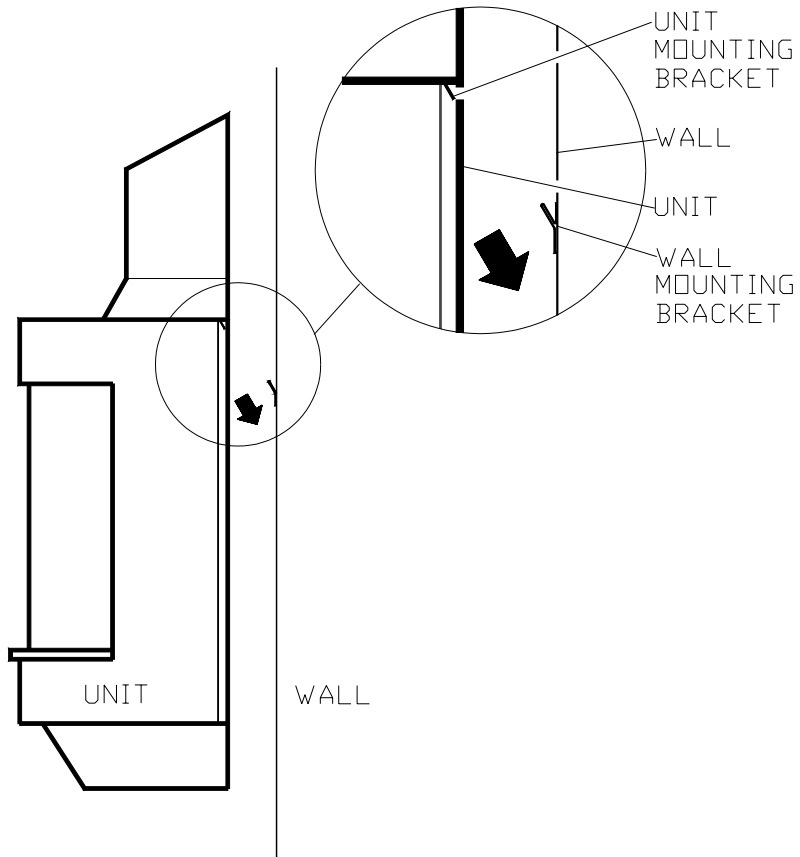

FIGURE 4
5. The wall-mounting bracket must be mounted to at least one wall stud (FIGURE 3) or into two wall studs (FIGURE 4)
7. When installing into one stud, use one of the three center locations as indicated in FIGURE 4. The wall anchors must be installed into the outer most locations as indicated in FIGURE 4.